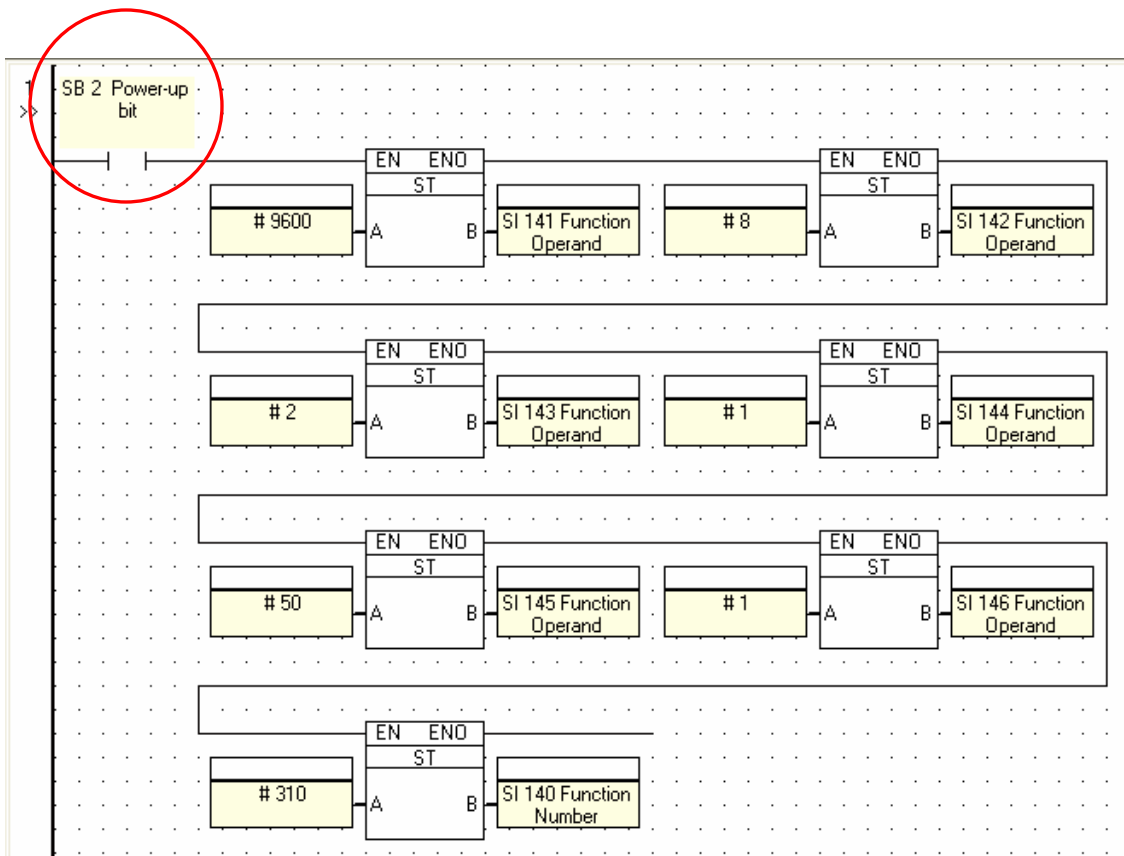

Figure 5: Assembled communication buttons, with Power-up bit SB2 highlighted.
Select and insert all of the buttons necessary to establish communication based on the communication parameters of your system and system integers (SI) settings needed by the PLC. See Figure 5 for a complete illustration of the assembled communication buttons.